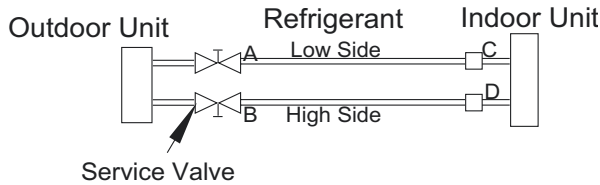

Fig. 9 — Service Valve
1. Completely tighten the flare nuts (A, B, C, D, E). Fully open all circuits service valves. Connect the manifold gage charge hose to the charge port of the low side Master service valve to evacuate all circuits at the same time (see Fig. 9).